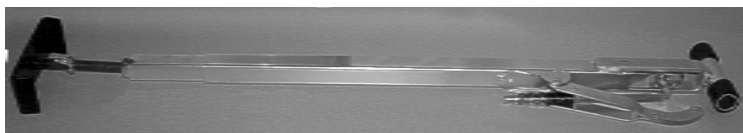

Fig. 3-5
2. For Eagle and Qwest models, remove “travel bars” (Fig. 3-5) from behind the top fascia board located above slideout room.
6. **For Eagle and Qwest models, install “travel bars” (Fig. 3-5) in proper locations as indicated on the wall.**
3. **For Eagle and Qwest models, remove the “travel bars” (Fig. 3-5) from behind the top facia board located above slideout room.**
4. **For Eagle and Qwest models, install “travel bars” (Fig. 3-5) in proper locations as indicated on the wall.**